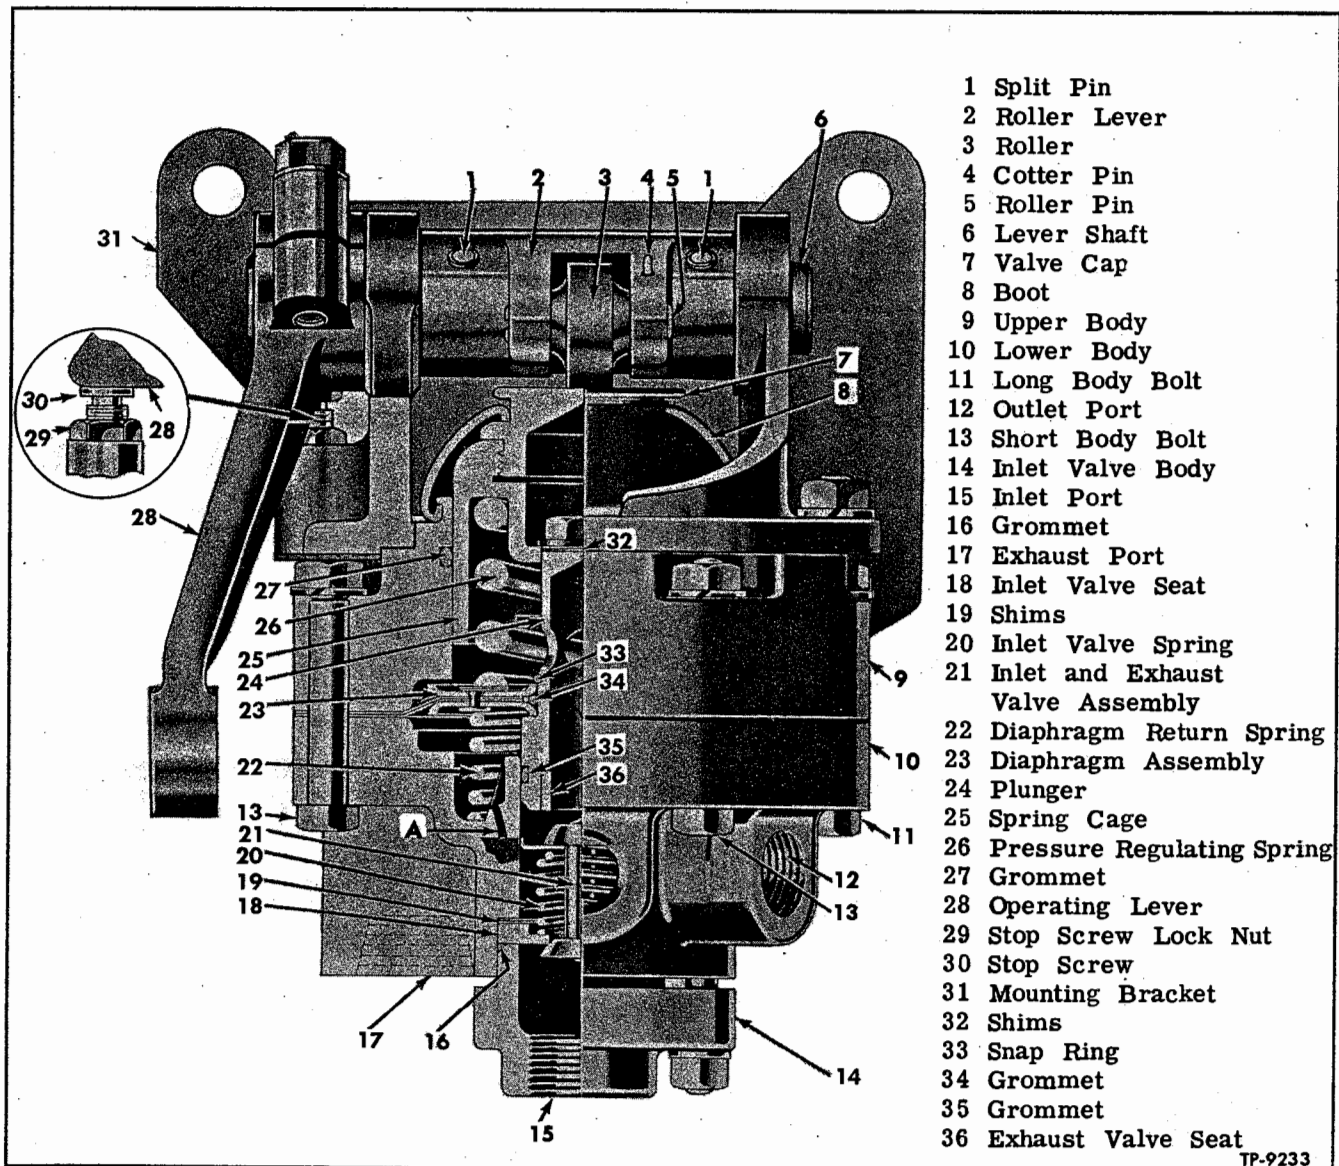

Figure 10—Brake Application Valve
Brake application valve (fig. 10) is a lever type D-1 brake valve mounted on bulkhead at rear side of compartment at left front corner of vehicle. Brake treadle, mounted on floor board in driver's compartment, is connected to the application valve operating lever by a brake rod and adjustable yoke (2).
APPLICATION VALVE OPERATION (Fig. 10)
The compensating port (passage A, fig. 10) in the lower body casting permits the same air pressure being delivered to the brakes to enter the cavity below the diaphragm. When air pressure in cavity below diaphragm balances the mechanical force on top of the diaphragm, the diaphragm moves upward, permitting the inlet valve to close but not enough to open the exhaust valve. This prevents additional pressure from being delivered to the brakes, and at the same time prevents pressure already delivered from escaping through the exhaust valve and exhaust port, and brakes are held in applied position. Should the driver depress the brake treadle still further, exerting additional force
If full system pressure is not delivered, check treadle stop screw and brake rod adjustment as previously directed in this section under "Brake Treadle Linkage Adjustment." If valve does not graduate the delivered pressure properly (between 5 and 75 pounds), it is an indication that passage A (fig. 10) is restricted.
APPLICATION VALVE DISASSEMBLY (Fig. 10)
Check fit of plunger in upper bore of lower body. Plunger should be a neat sliding fit in body. Inspect diaphragm seat radius on top of body. Replace lower body if any damage is evident. Make sure small bleed hole (passage A, fig. 10) is not restricted.
Disassemble Bracket and Levers (Fig. 10)
Assemble Bracket and Levers (Fig. 10)
2. Position roller lever in mounting bracket and insert lever shaft through bushings in bracket and through roller lever, aligning pin holes in shaft with holes in roller lever. Refer to figure 10 for correct position of parts. Drive two split pins into lever and shaft.
APPLICATION VALVE ASSEMBLY (Fig. 10)
c. Move the operating lever to fully applied position (to the limit of its travel) and measure the maximum inlet valve travel. The travel should be 0.148" minimum to 0.156" maximum. If travel is not within limits, remove inlet valve body and inlet and exhaust valve assembly and add or remove shims (19, fig. 10) as required. Add shims to decrease travel, remove shims to increase travel.